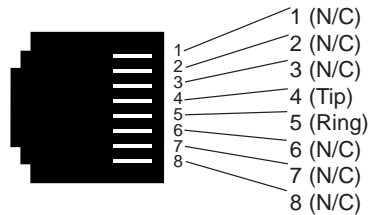

Figure 11. Model 1095RC twisted pair line interface.
1. The RJ-45 connector on the Model 1095RC's twisted pair interface is polarity insensitive and is wired for a two-wire interface. The signal/pin relationships are shown in Figure 11 below.